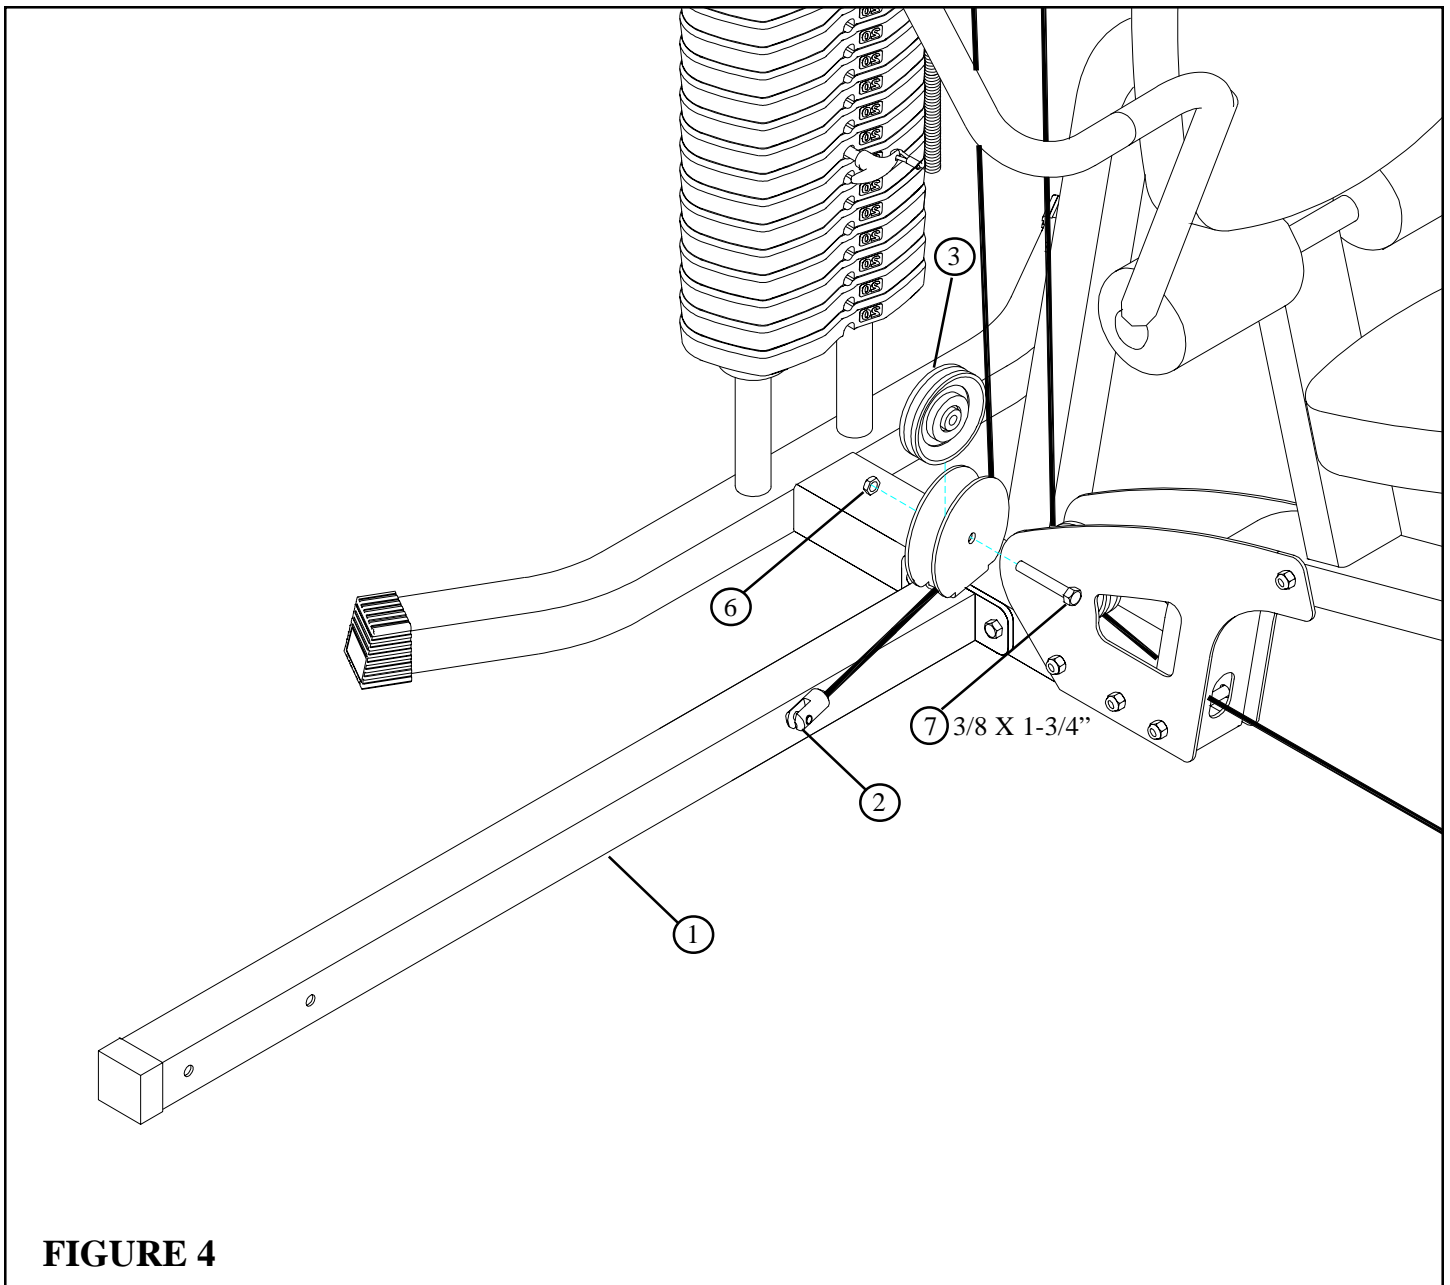

**FIGURE 3**
- Assemble the new LEG PRESS CABLE (2) using the previously removed bolts as shown in FIGURE 3. (NOTE: Make sure the LEG PRESS CABLE is running in the grooves of all pulleys and above the retaining bolts.)